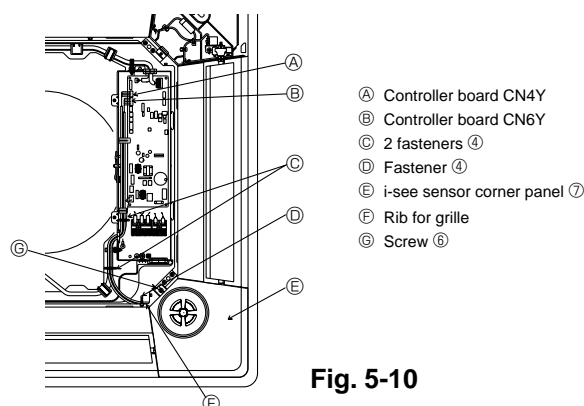

Fig. 5-10
① Refrigerant piping of the main unit
② Drain piping of the main unit
③ Initial position of the corner panel (logo attached)
④ Initial position of the levers on the intake grille
⑤ i-see sensor (PLP-6BAE panel)
5.6. Installation of i-see sensor corner panel (Fig. 5-10)